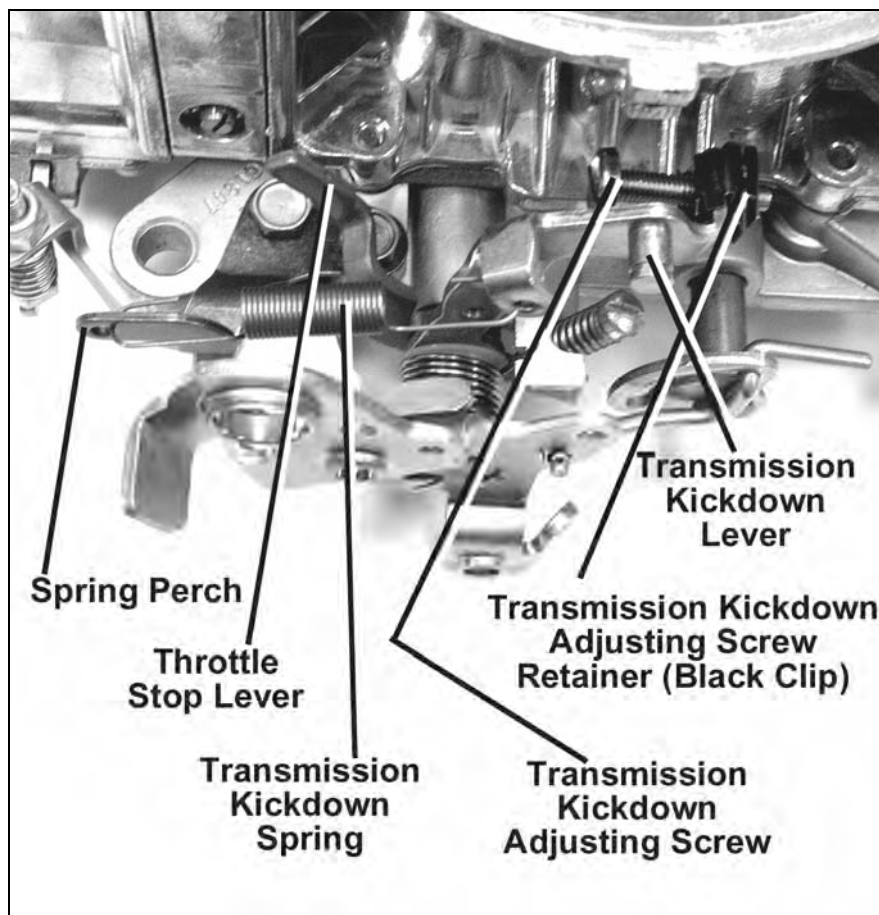
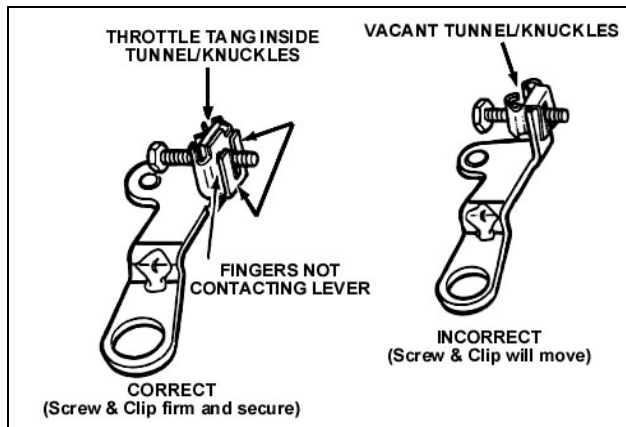

Figure 2—Ford applications
Figure 3—Ford applications
2. Insert the transmission kickdown screw with the black retaining clip on the transmission kickdown lever (Figure 2). This assembly must be installed according to the detailed drawing (Figure 3).
4. Install the transmission kickdown spring between the transmission kickdown lever and spring perch (Figure 2).